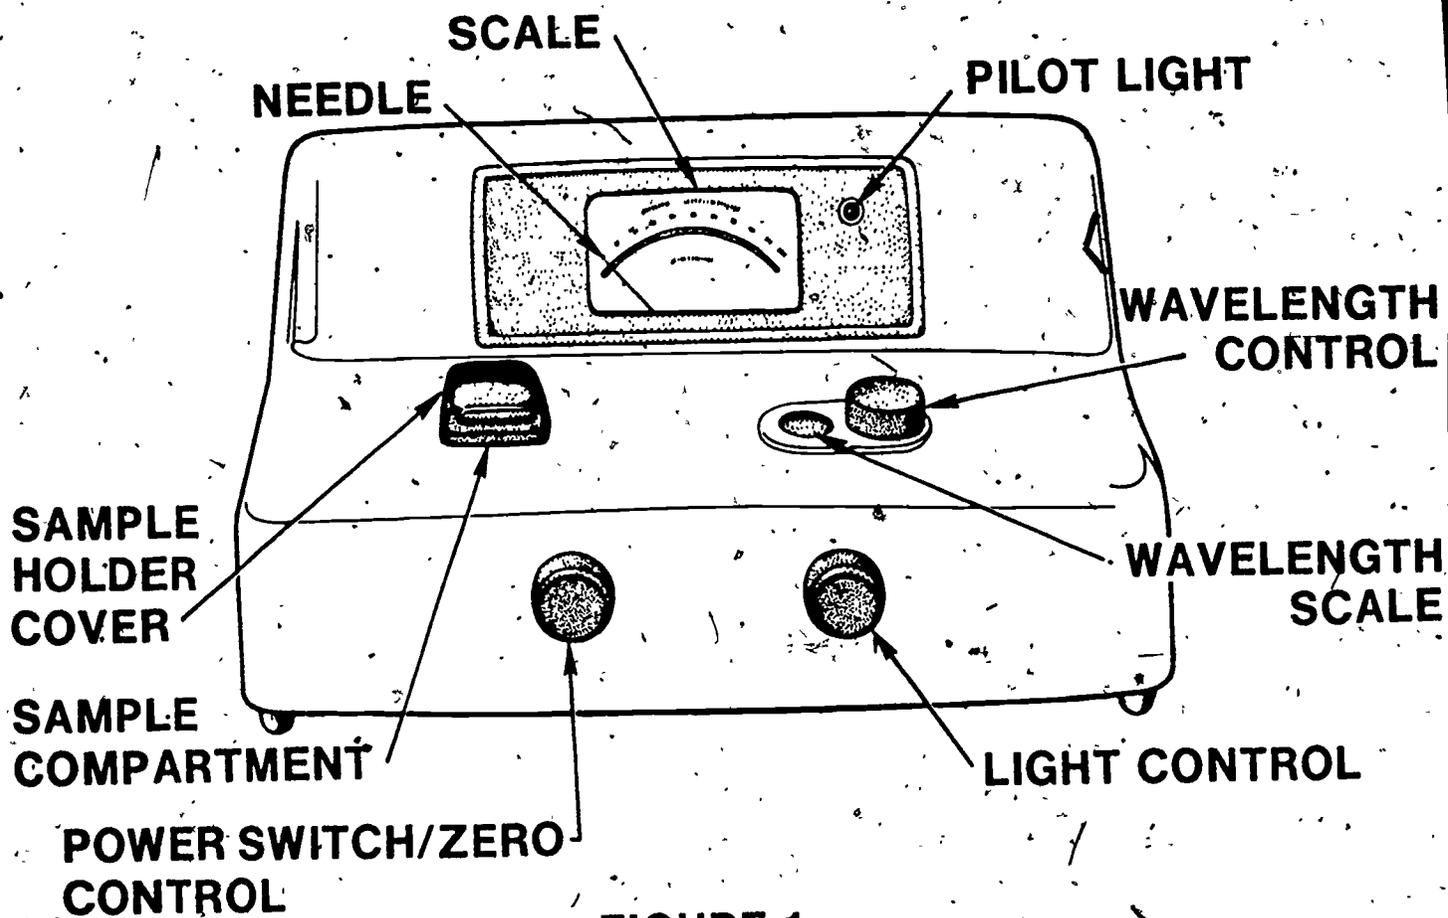

FIGURE 1
- a. Remove the page containing figure 1.